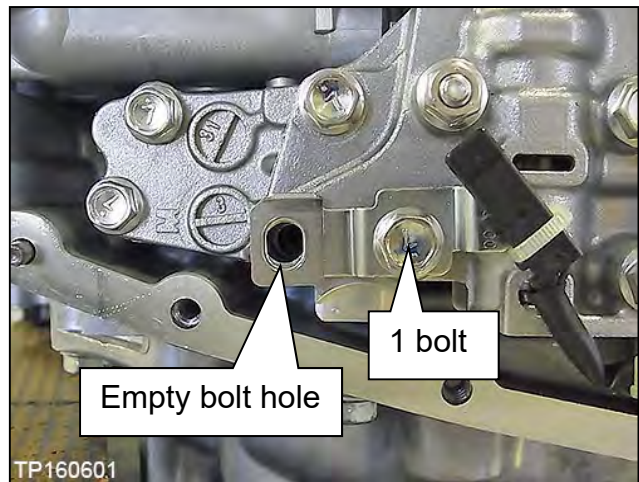

Figure 169
123. Install the CVT fluid temperature sensor bracket to the control valve with one (1) bolt (Figure 169).